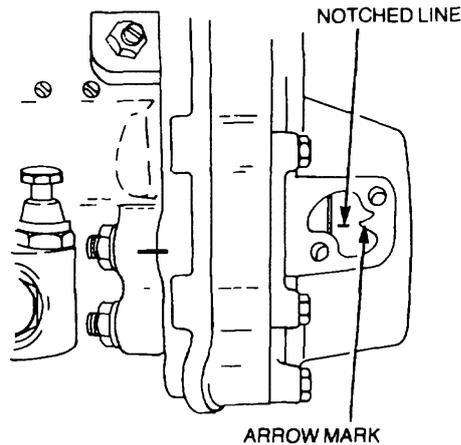

Figure 31 Injection Pump Timing Mark
- With the TDC mark aligned, remove the inspection plate on the timing cover and ensure that the notched line is aligned with the arrow mark (Figure 31).